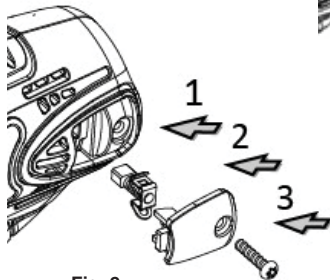

Fig. 2
- B. Replace two new carbon brushes to both right and left sides. (See Fig. 2, step 1)
- D. Use screwdriver to tighten the screw from rear cover of the housing. (See Fig. 2, step 2 & 3).